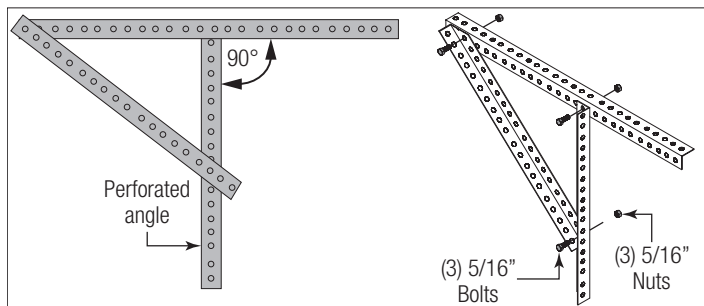

Figure 61
**IN THE EVENT THE SPRING(S) WERE OVER-WOUND, HOLD THE DOOR DOWN FIRMLY AND CAUTIOUSLY REMOVE LOCKING PLIERS FROM VERTICAL TRACKS TO PREVENT IT FROM RISING UNEXPECTEDLY.**
**See Figures 61, 62, and 63 for the following steps.**